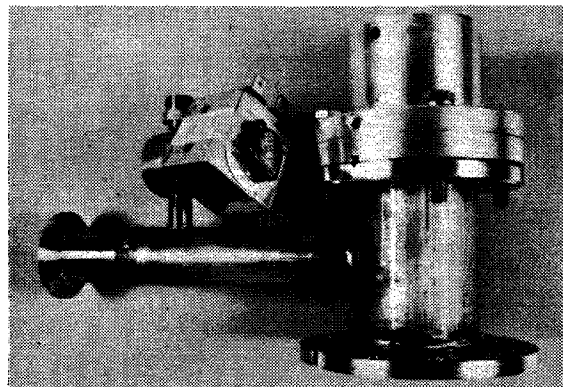

Figure 6-16. Pneumatic Actuator (Ready for Bolt Tightening—Note Gap)
12. Install pneumatic actuator. Be sure the hole for the compressed air line is located as shown in Figure 6-16).